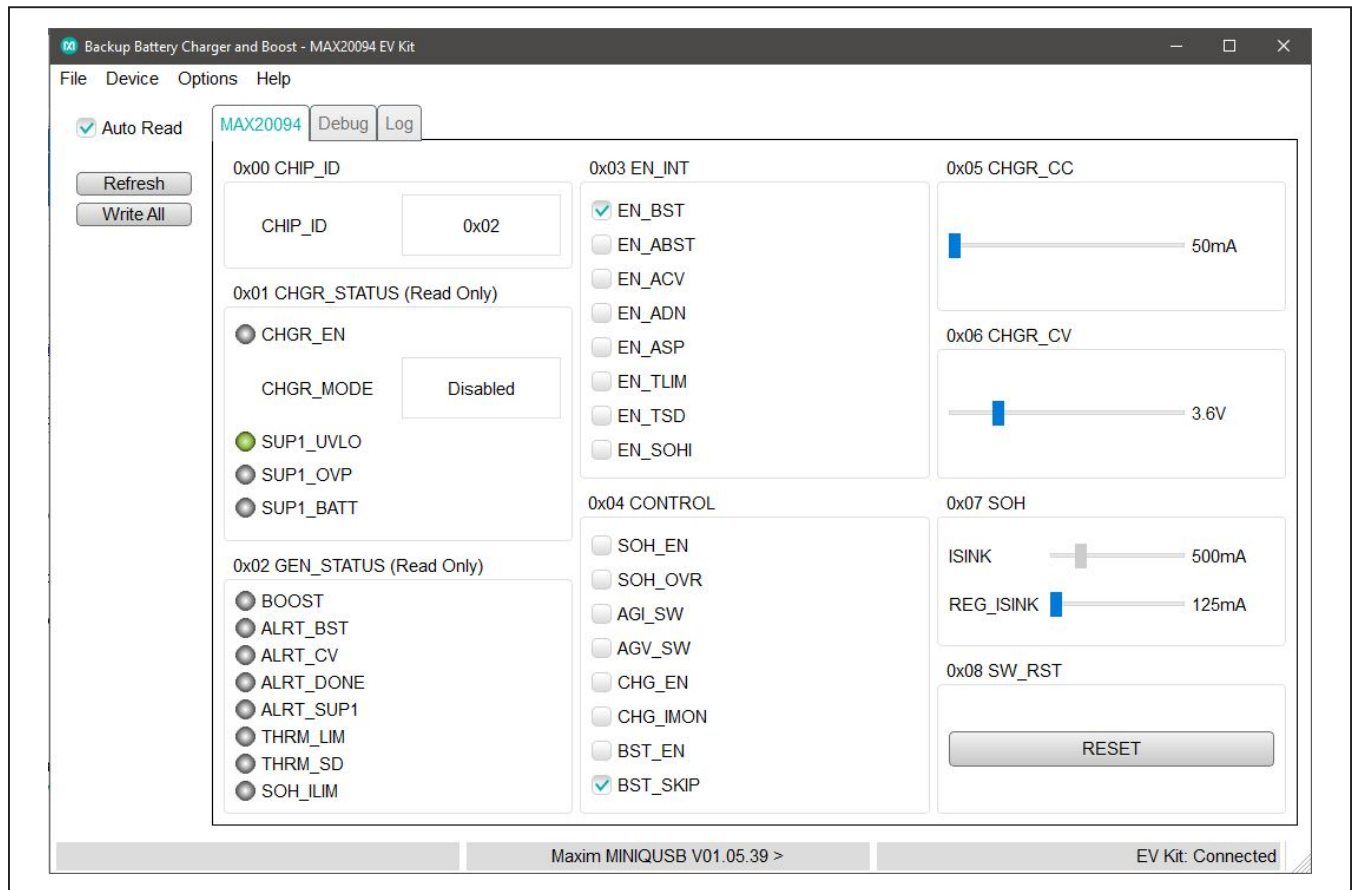

Figure 1. MAX20094 Evaluation Kit Software Main Window (also applies to the MAX20095 EV Kit)
- 7) Check **CHG_EN** in the GUI (Figure 1) to enable the charger.
- 6) Check **SOH_EN** in the GUI (Figure 1) to enable the SOH function.
The GUI shown in Figure 1 is the main window of MAX20094 EV kit software, and provides a convenient means to control both the MAX20094 and MAX20095 ICs. When the software is first opened, a splash screen appears. Click anywhere on the screen to proceed to the main window. Verify that the bottom-right corner of the status bar displays **EV Kit: Connected**. If there is a problem with the connection, reconnect the EV kit to the PC, power it up, and then click **Device > Connect**, or press F9 on the keyboard. Refer to the MAX20094/MAX20095 IC data sheet for a full description of each register and their bits.
In constant-current mode, the fast-charging current can be adjusted based on system requirements. To adjust this on the EV kit, adjust the 0x05 CHGR_CC slider in the GUI (Figure 1). If a power supply without sinking capability is used for BBAT+, a power resistor should be connected in parallel to the board to dissipate the charge current (flowing from board to supply). To prevent excess power from being drawn, the optimal resistor value is derived from: